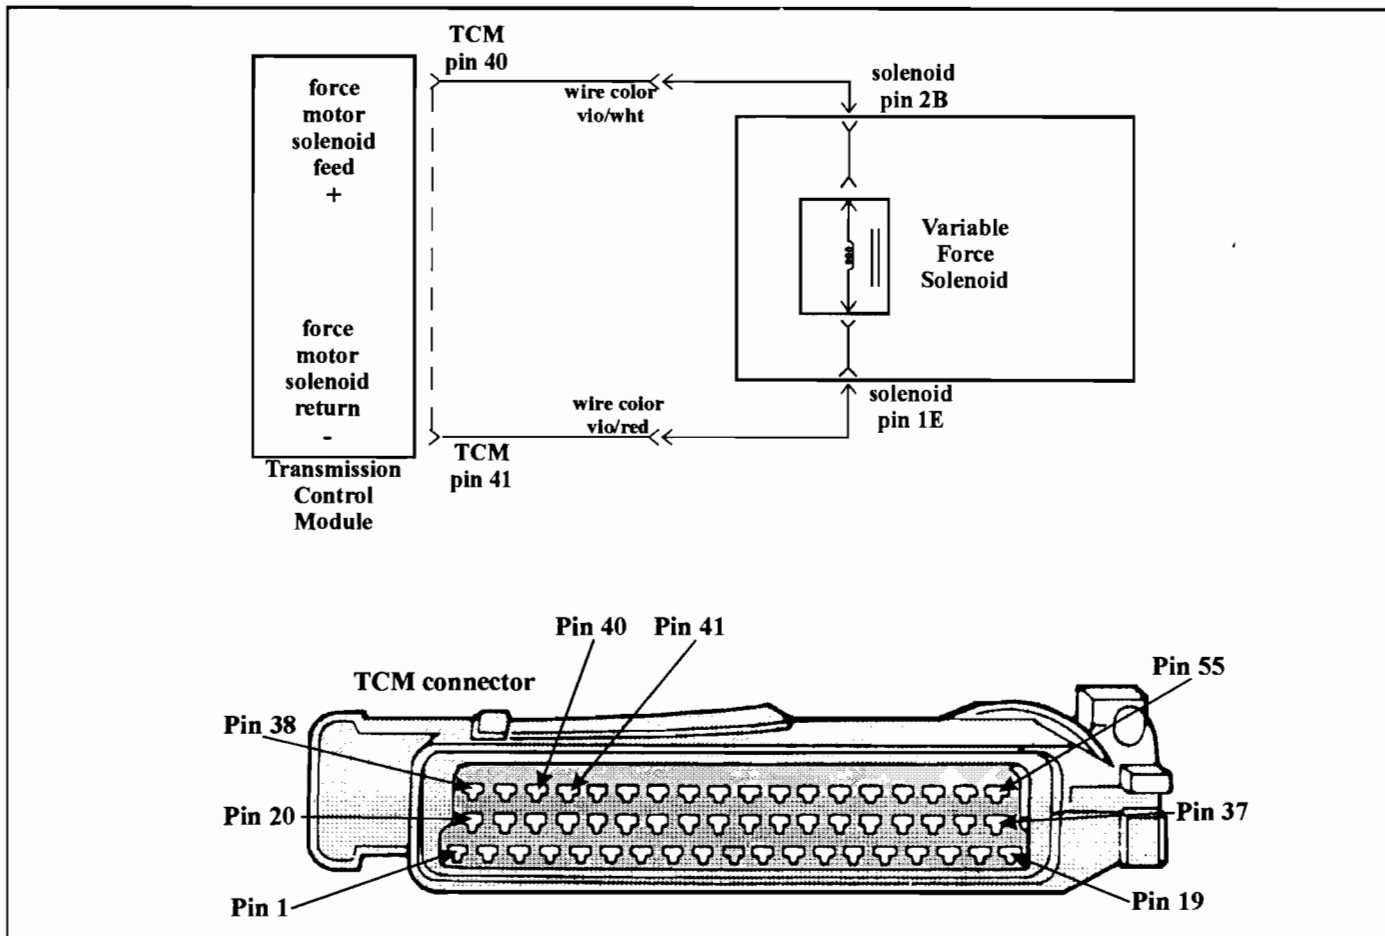

Figure 87
STEP 3: Turn the vehicle ignition switch to "OFF". Go to the TCM and disconnect the harness connector. Using an ohmmeter place the leads of the meter across pins 40 and 41 of the TCM harness connector going to the transmission (See Figure 87). Resistance should be between 3.7 and 4.7 ohms. **(If resistance is correct, proceed with this step. If resistance is incorrect go to step 4).** If the resistance is correct, check for a faulty TCM connector. If the TCM connector is "OK", replace the TCM clear the code and recheck.